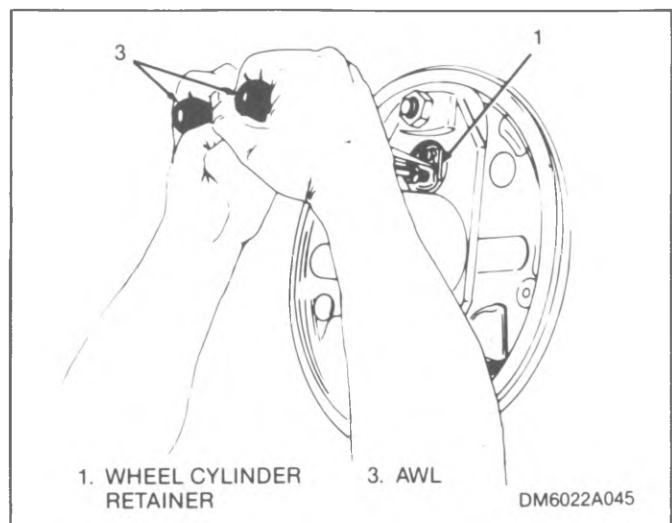

Figure 3-26. Removing Retainer
3-25. WHEEL CYLINDER ATTACHED WITH RETAINER. Proceed as follows (see figure 3-26):
4. As shown in figure 3-26, insert awls (3) or pins into access slots between wheel cylinder pilot and retainer (1) locking tabs.
5. Bend both tabs away simultaneously to remove retainer (1) and wheel cylinder (2).
7. Position wheel cylinder (2) and hold in place with wooden block between cylinder and axle flange.